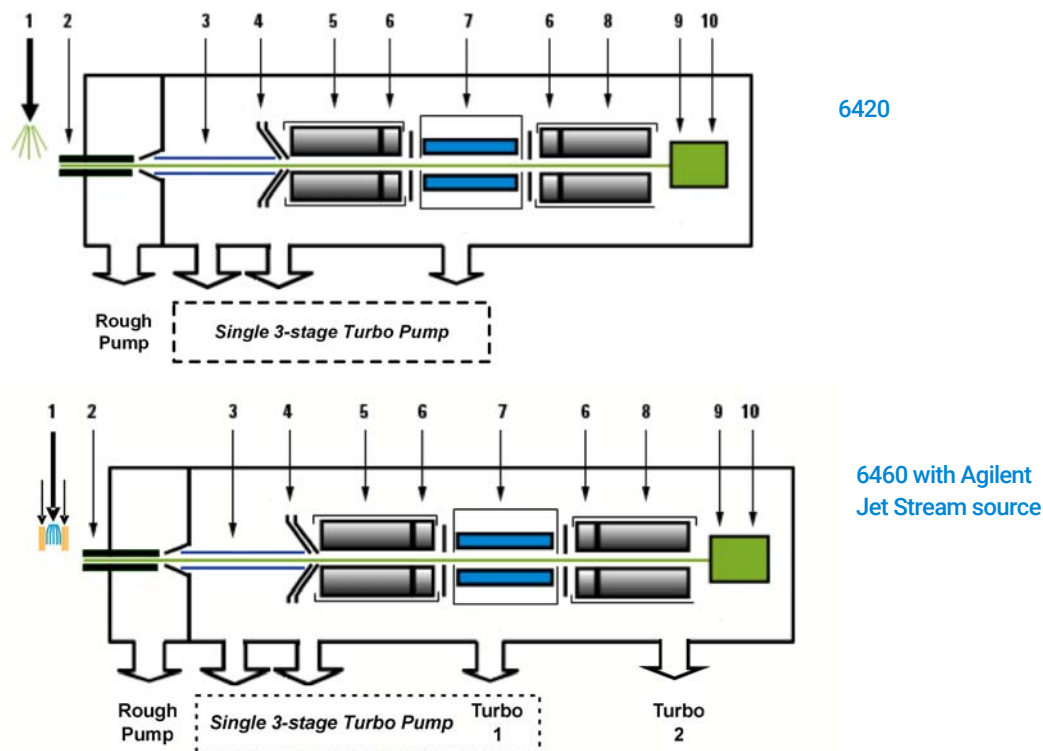

Figure 21. Multiple sources of noise on 6420/6460
Triple quadrupole mass spectrometers exhibit multiple sources of noise, including noise from all chemical and cluster backgrounds and electronic noise (Figure 21).
The problem of noise must be addressed at several stages of the instrumentation from the ion source (1) to the detector (10) in Figure 21.
See **Figure 21** on page 42.
This section describes in more detail how each of the components of the Triple Quad LC/MS contributes to reducing noise (**Figure 21**).